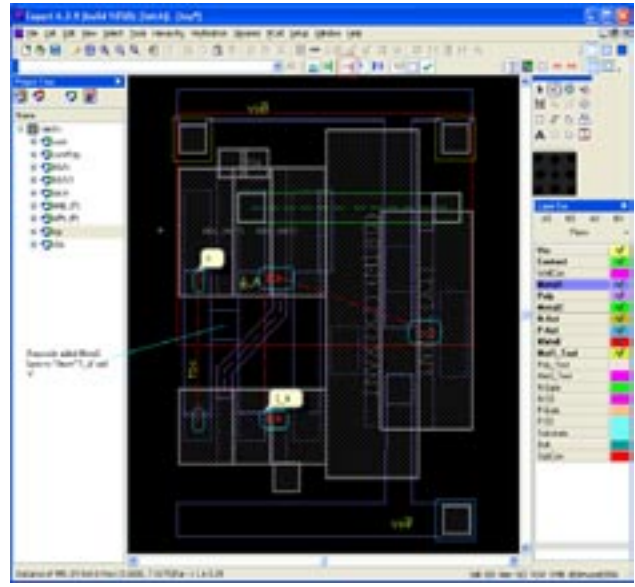

Figure 9. Edited Layout view after re-extraction to show 'Shorted Nets Only'.
- Add a box in Metal1 on the left to intentionally short nets 'X' and '1\_A' as seen in Figure 9. After 'Reextract' or 'Update Connectivity', flight lines for both nets 'X' and '1\_A' displayed in red.